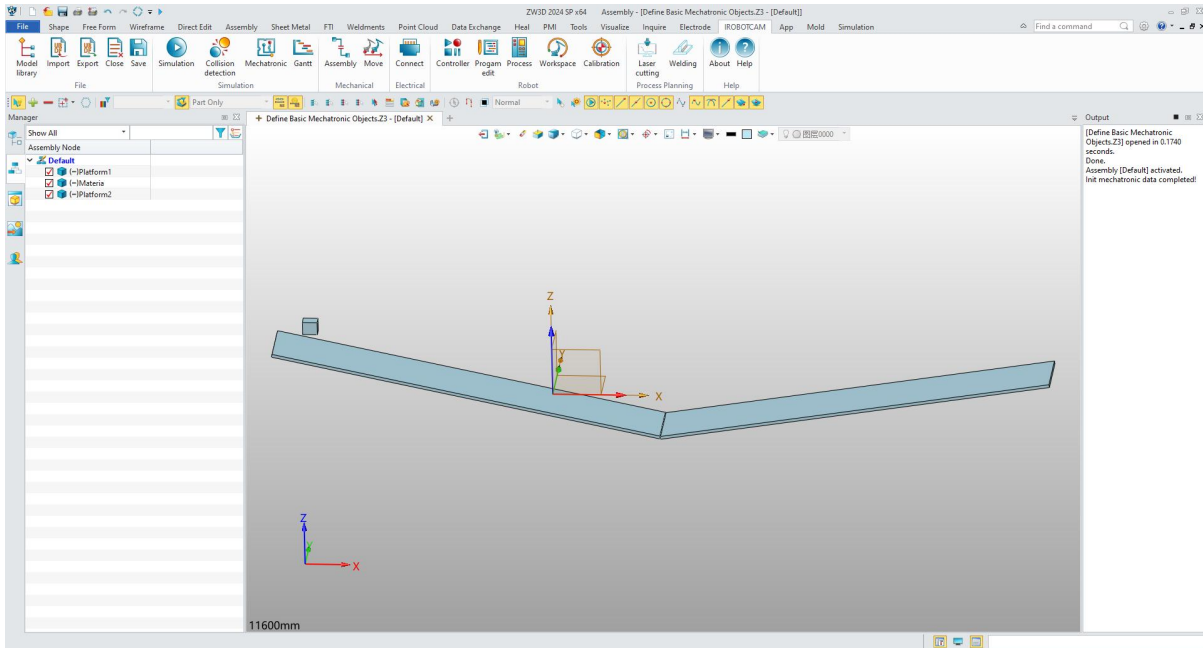

Figure 5-4: Component Details
- The interface will display three components. (Figure 5-4)